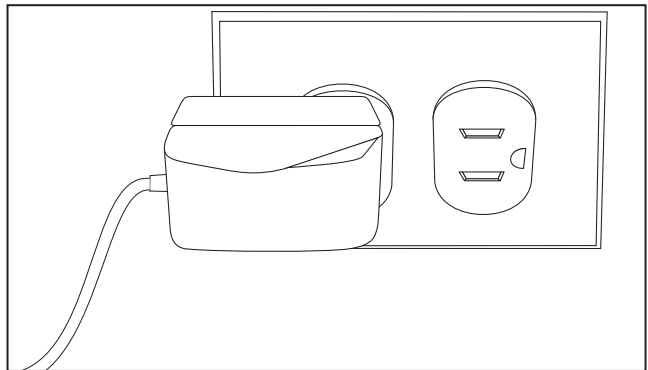

Figure 4. Plug the adapter into a wall outlet.
- (c) Plug the ac adapter into a wall outlet. See Figure 4.